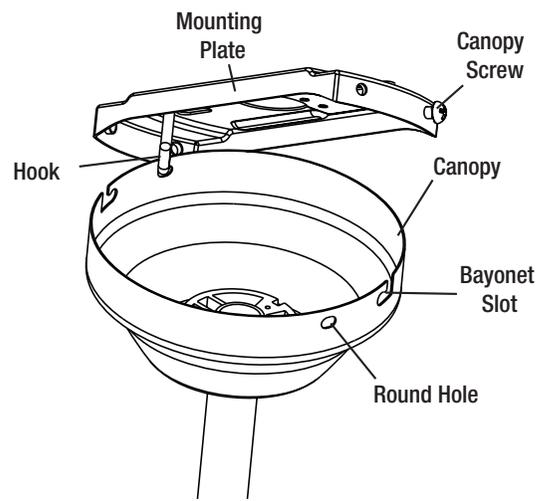

Figure 7
- Before making the electrical connections, engage one of the screw holes at the top of the ceiling canopy with the hook on the mounting plate (Figure 7).